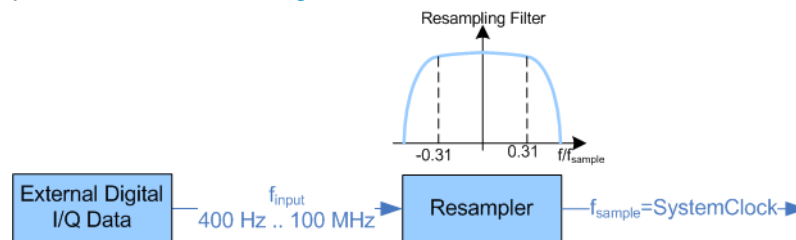

Figure 5-23: Resampling principle of external digital baseband signals
- External input signals with sample rates different than the system clock are resampled, as illustrated on Figure 5-23.
- A baseband signal with a sample rate that is smaller than the used system clock is interpolated (see Figure 5-23). With R&S SMBV-B10, the resulting modulation bandwidth is calculated as $Sample\ Rate * 0.62$, i.e. with a sample rate of exactly 100 MHz, the modulation bandwidth is 62 MHz.